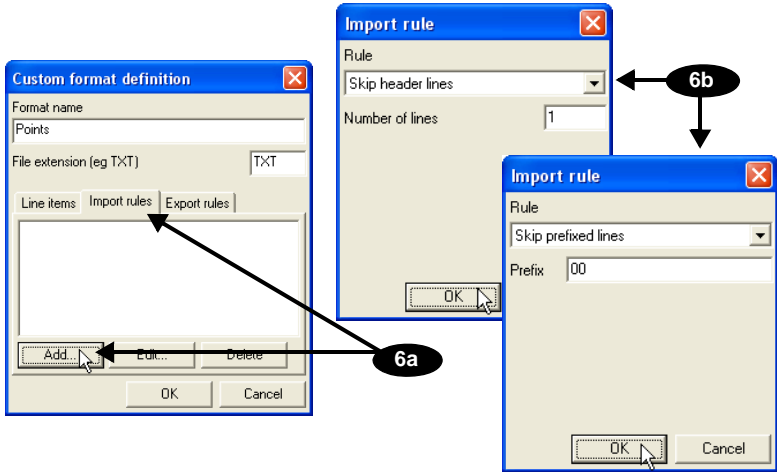

Figure 2-18. Add Import Rules
- Press the **Import rules** tab, then press **Add**. Select the desired *Rule* and enter the applicable *Number of header/prefixed lines* to skip (Figure 2-18 on page 2-15).
7. Click **OK** (Figure 2-18).